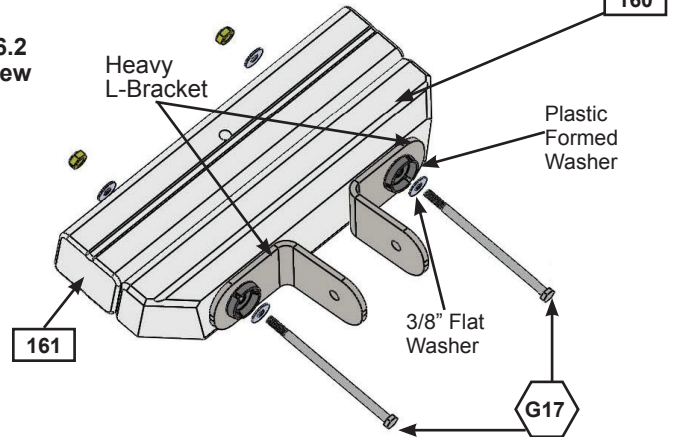

Fig. 16.4
C: Place (160) SW Block Angle and (161) Block SW assembly in between 2 (162) SW Post (Heavy L-Brackets towards the outside). Place 1 Heavy C-Bracket on the top (162) SW Post and attach with (G26) 3/8 x 9-1/4" Hex Bolt (with 2 flat washers and 1 lock nut), as shown in fig. 16.4